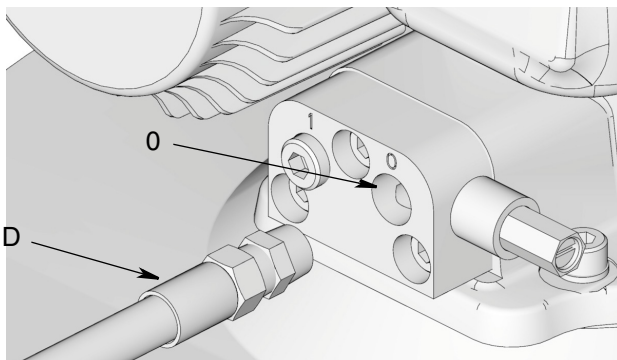

FIG. 52: Lubricant Outlet Connection
3. Disconnect Timer/Controller (F) (user supplied, if used).
4. Disconnect High Pressure Lubricant Supply Line (D) to the Lubricant Output Connection (O) (FIG. 52) on the Vent Valve or Manifold.